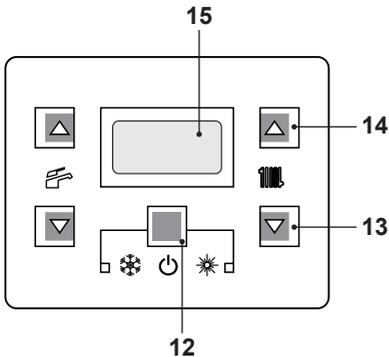
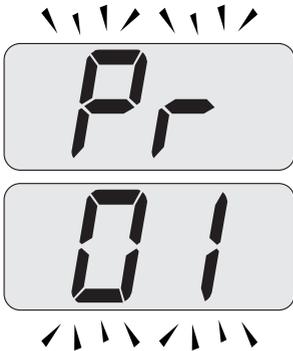
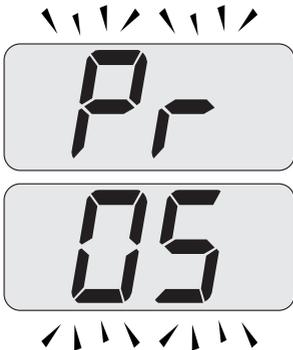

Fig. 9.3
Fig. 9.4
Fig. 9.5
- Enter in "programming mode" by sequentially pressing and holding in keys 12 - 13 - 14 (Fig. 9.3) for 10 seconds until the letters **Pr** that alternate with code **01** are displayed on the LCD display, indicating that "parameter 01" (Fig. 9.4) has been activated.
- Scroll the various parameters using keys 13 or 14 until the letters **Pr** that alternate with code **05** are displayed on the LCD display, indicating that "parameter 05" (Fig. 9.5) has been activated.
- Press keys 12 and 14 (Fig. 9.3) at the same time until the value of parameter 05 (00=G20) is displayed on the LCD display (Fig. 9.6).
- By pressing key 14 three times, it is possible to change the value of parameter 05 from **00**=G20 to **05**=G31, which is ok for LPG gas.
- By pressing key 12 (Fig. 9.3) confirmation of the inserted value is obtained.
- Press keys 12 and 13 (Fig. 9.3) at the same time to exit without changing the value (return to the parameters list Fig. 9.5).
- Press sequentially keys, 12 - 13 and then 14 (Fig. 9.3) and hold in for 10 seconds to exit the "programming mode".